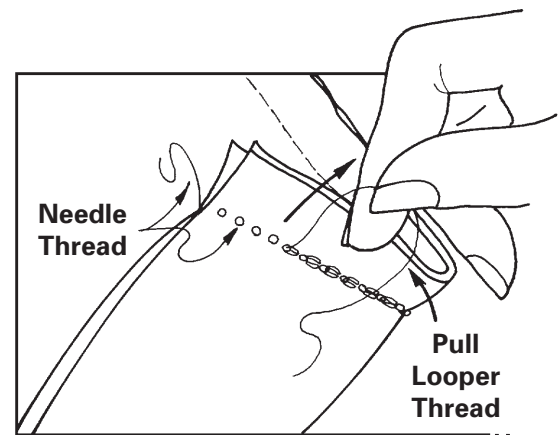

Fig. 25-7
3. Pull on the looper thread and the chain stitch will pull out without any effort. (Fig. 25-7)